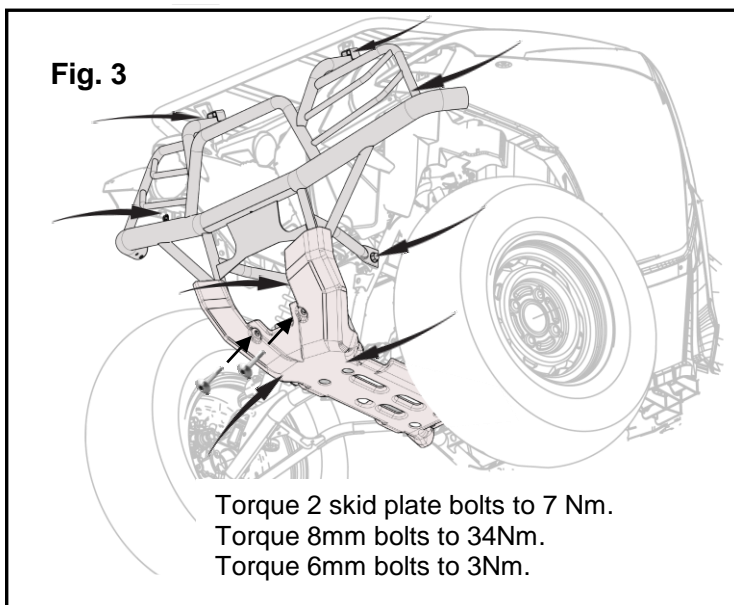

Fig. 3
6. Install the front of the skid plate to the mount points using the stock bolts. Torque the bolts to 7Nm (0.7 m-kgf, 5.1 ft-lbf). Refer to Fig. 3.